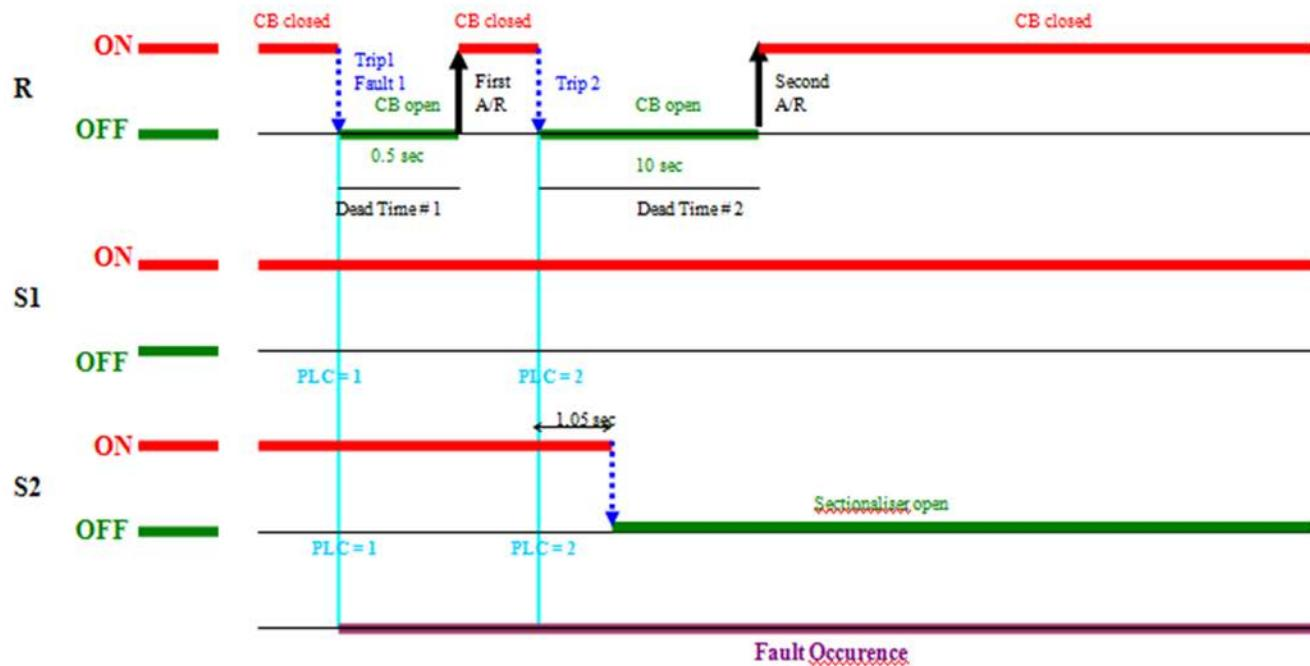

Figure 3.9: Example of one autorecloser and 2 sectionalizers In series connection(fault after s2).
- G. Sectionalizers opening time = 1.05 sec. If the sectionalizer has counted 2 down times, it will trip 1.05 seconds after the autorecloser's opening. This falls within the autorecloser second dead time of 10 seconds [7].The line trip sequence will be as shown in figures 3.9 & 3.10.